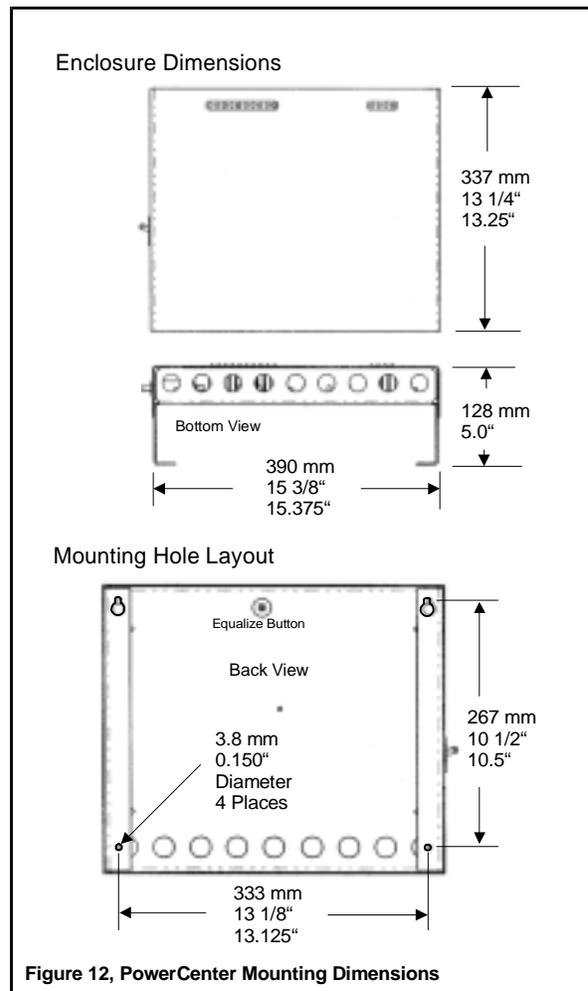

Figure 12, PowerCenter Mounting Dimensions
The enclosure dimensions and mounting layout for the PowerCenter are shown in Figure 12. The PowerCenter should be mounted with four M4 (0.157" dia.) screws. We recommend the following procedure:
**Box Lugs:** The PowerCenter is supplied with box lugs (not shown in Figures 12 and 13) that are used to connect electrical leads to the terminals on the PowerCenter circuit board. These lugs can accommodate wire sizes from 3.35 mm2 to 7.1 mm2 (8 AWG to 2 AWG).